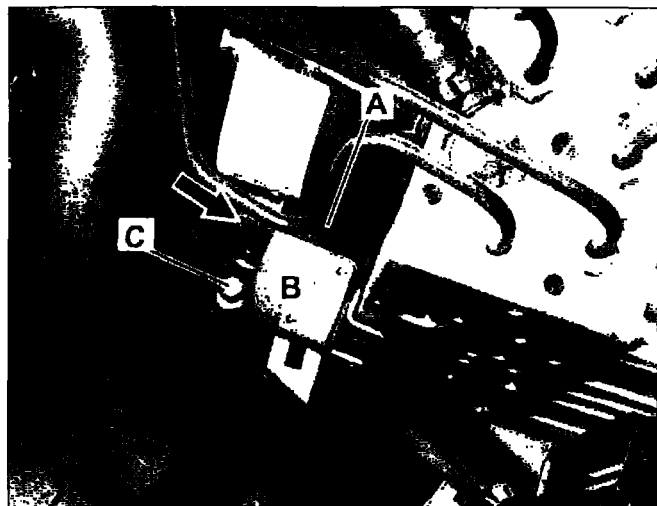

Figure 19
- In order to avoid breaking the self-tapping screw (B) during installation, the screw (B) must be **positioned absolutely straight**.
- In the event self tapping screw (B) is broken during installation of bracket (A) perform step 18 then continue with campaign (installation of bracket due to breakage of mounting screw will **not** be covered under warranty).
- Remove self tapping screw (B).
- Position bracket (A) on SBC hydraulic unit, reinstall self tapping screw (B) and torque to 7 Nm.
18. Install clamp-on mounting bracket (B, Figure 19):
- Position mounting bracket (B) onto SBC hydraulic unit (A) as shown in Figure 19.